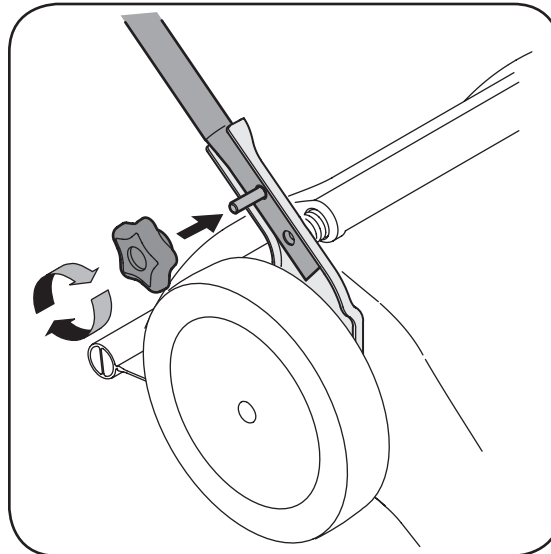

Figure 3-2: Secure lower handle to mounting brackets.
2. Tighten star knobs securing lower handle to handle brackets. See Figure 3-2. Make sure that each carriage bolt is seated properly in the handle.